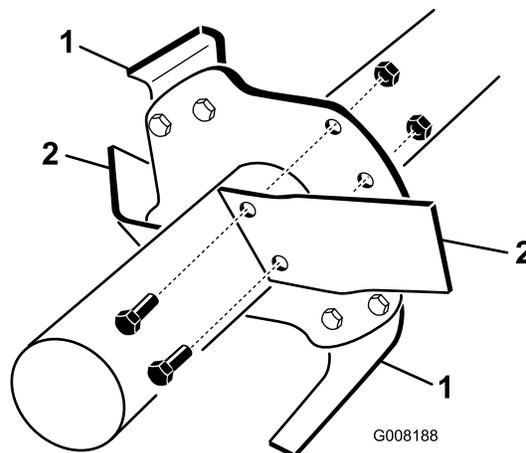

Figure 13
5. Remove old tines, 1 at a time, and install the new tines (Figure 13).